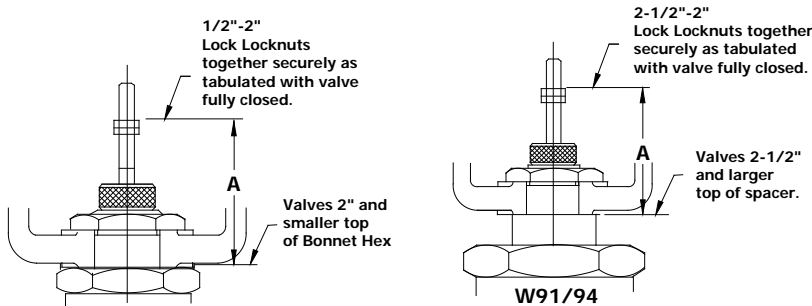

Figure 6
- c. Set the topmost locknut to the dimension shown and tabulated in Figure 6.